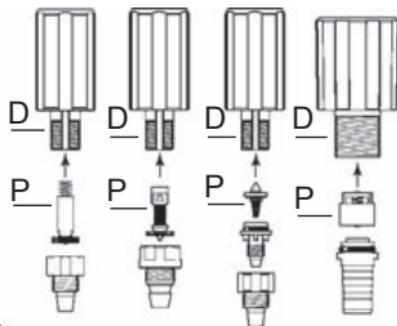

Fig. 18
- Rinse copiously the different parts with clean water, re-assemble them (Fig. 18).
- Refit the suction valve (Fig. 18-P), according to the 3 pump types, into the injection stem (Fig. 18-D), push as far as it will go.